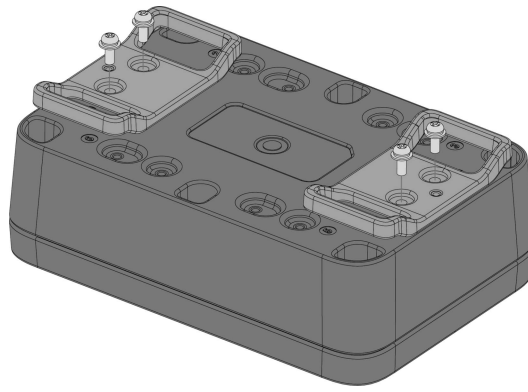

Figure 35: Fixing the belt loop mount on the enclosure
2. Fix the belt loop mount marked with the letter **H** on the WisBlock Unify Enclosure using four (4) pieces of M3*8 mm Head screw with a washer. Place it on fixed positions number **1 to 6** of the enclosure, as shown in **Figure 35**.